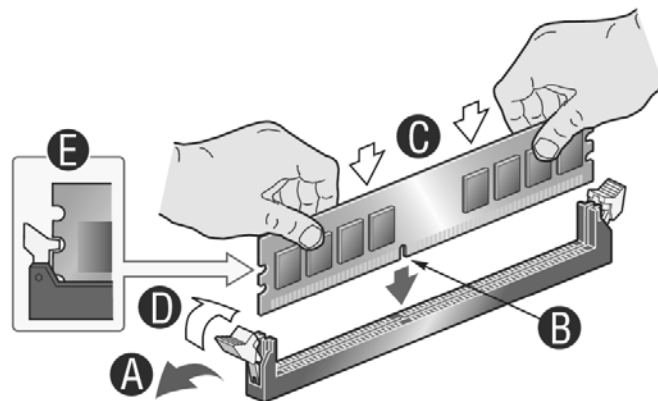

Figure 12 .Installing Memory
5. Make sure the clips at either end of the DIMM socket(s) are pushed outward to the open position (Step “A” in Figure 12).
7. Position the DIMM above the socket. Align the small notch in the bottom edge of the DIMM with the key in the socket (Step “B” in Figure 12).
8. Insert the bottom edge of the DIMM into the socket (Step “C” in Figure 12).
9. When the DIMM is inserted, push down on the top edge of the DIMM until the retaining clips snap into place (Step “D” in Figure 12).
10. Visually check that each latch is fully closed and correctly engaged with each DIMM edge slot (Step “E” in Figure 12).